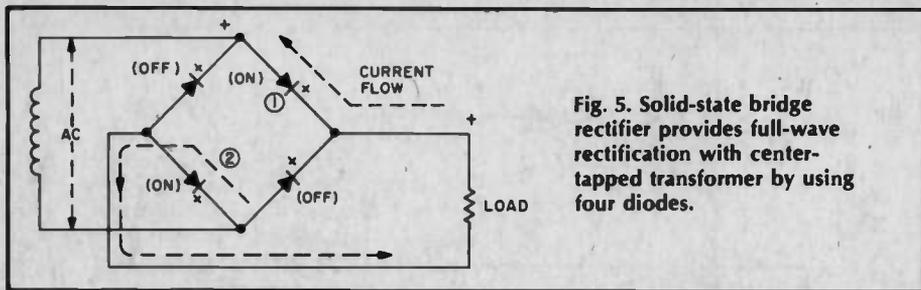

Fig. 5. Solid-state bridge rectifier provides full-wave rectification with center-tapped transformer by using four diodes.
**Bridge Rectifiers.** Another common arrangement is the full-wave bridge (Fig. 5). Though it uses four diodes, it offsets this disadvantage by an ability to produce the same output as a regular full-wave supply without a center-tapped transformer. It accomplishes the feat by operating one pair of diodes during each half cycle. And as one diode pulls current out of the load, its partner pushes current into it.
The net effect is a total voltage across the load which is about equal to the applied AC. We've shown how it occurs for diodes 1 and 2 in the diagram (Fig. 5) but a comparable action occurs in the other diodes when the AC switches polarity.